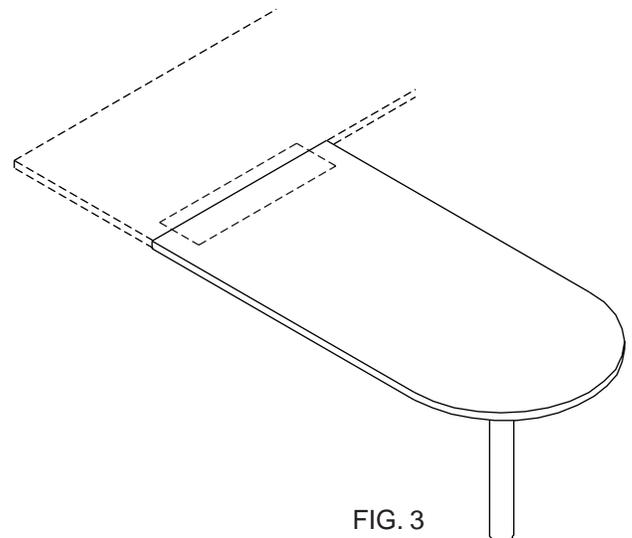

FIG. 3
1. When the square end of a "D" worksurface is to be attached to an adjacent worksurface (Figure 3), you will use the large splice plate and screws that are included with the worksurface. The "D" worksurface is pre-drilled to accept the splice plate. Due to the wide variety of locations where the "D" worksurface might be attached to the adjacent worksurface, pilot holes will need to be drilled once the final location is determined. Pilot holes should be 3/16" dia. x 5/8" deep.